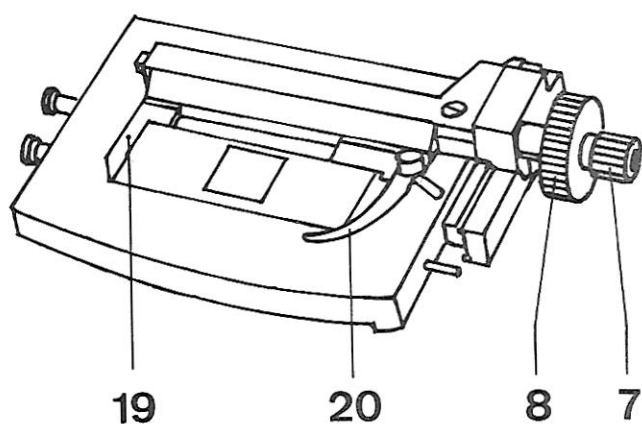

Fig. 5
a) Stage with standard mechanical stage (see Fig. 5)